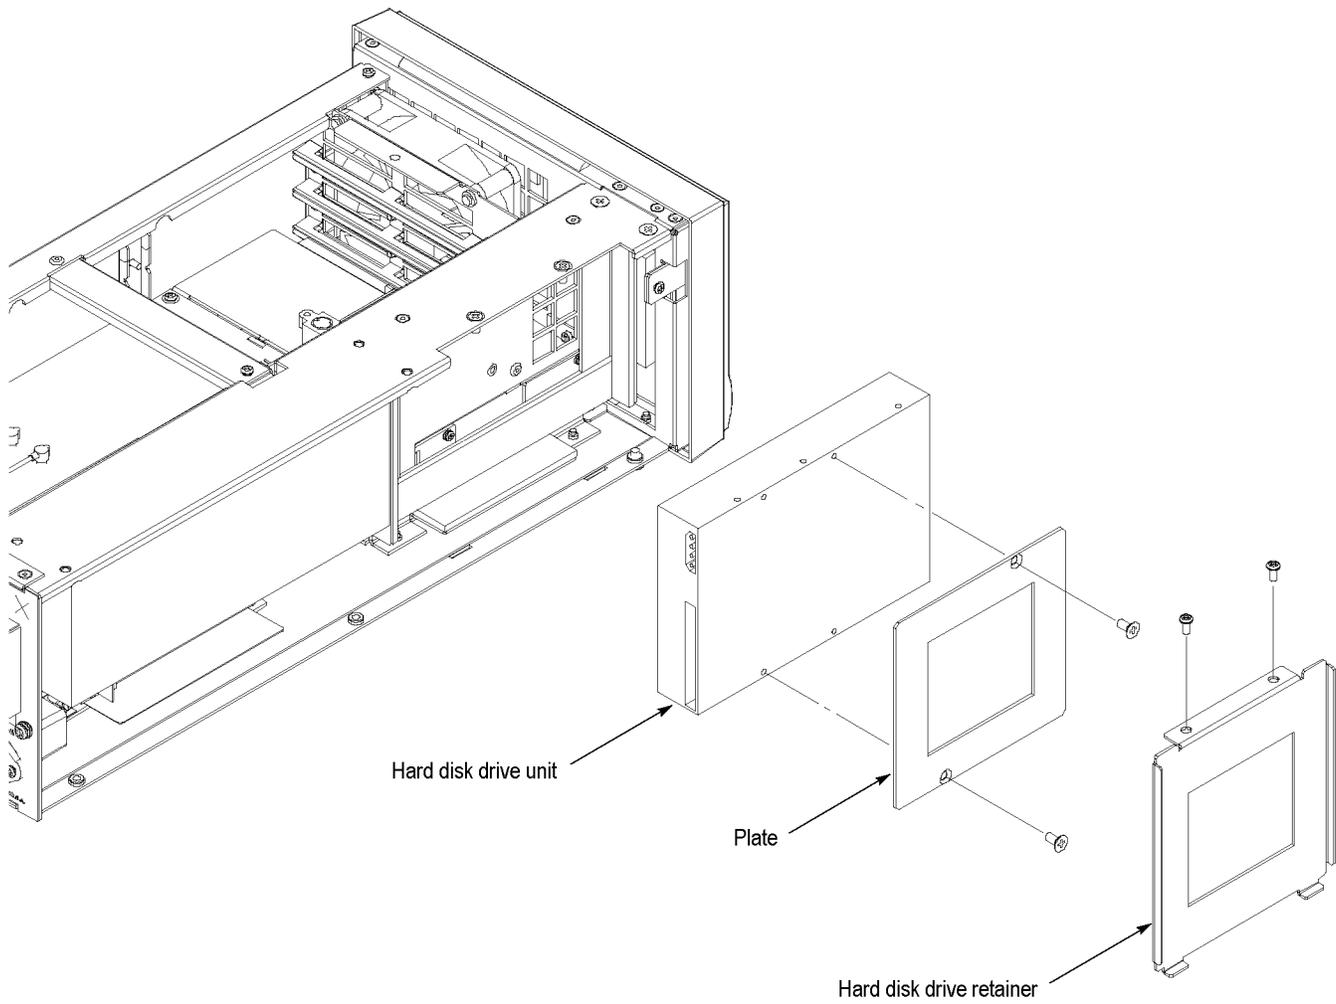

Figure 3-13: Hard disk drive removal
3. *Remove the hard disk drive*: (See Figure 3-13.)